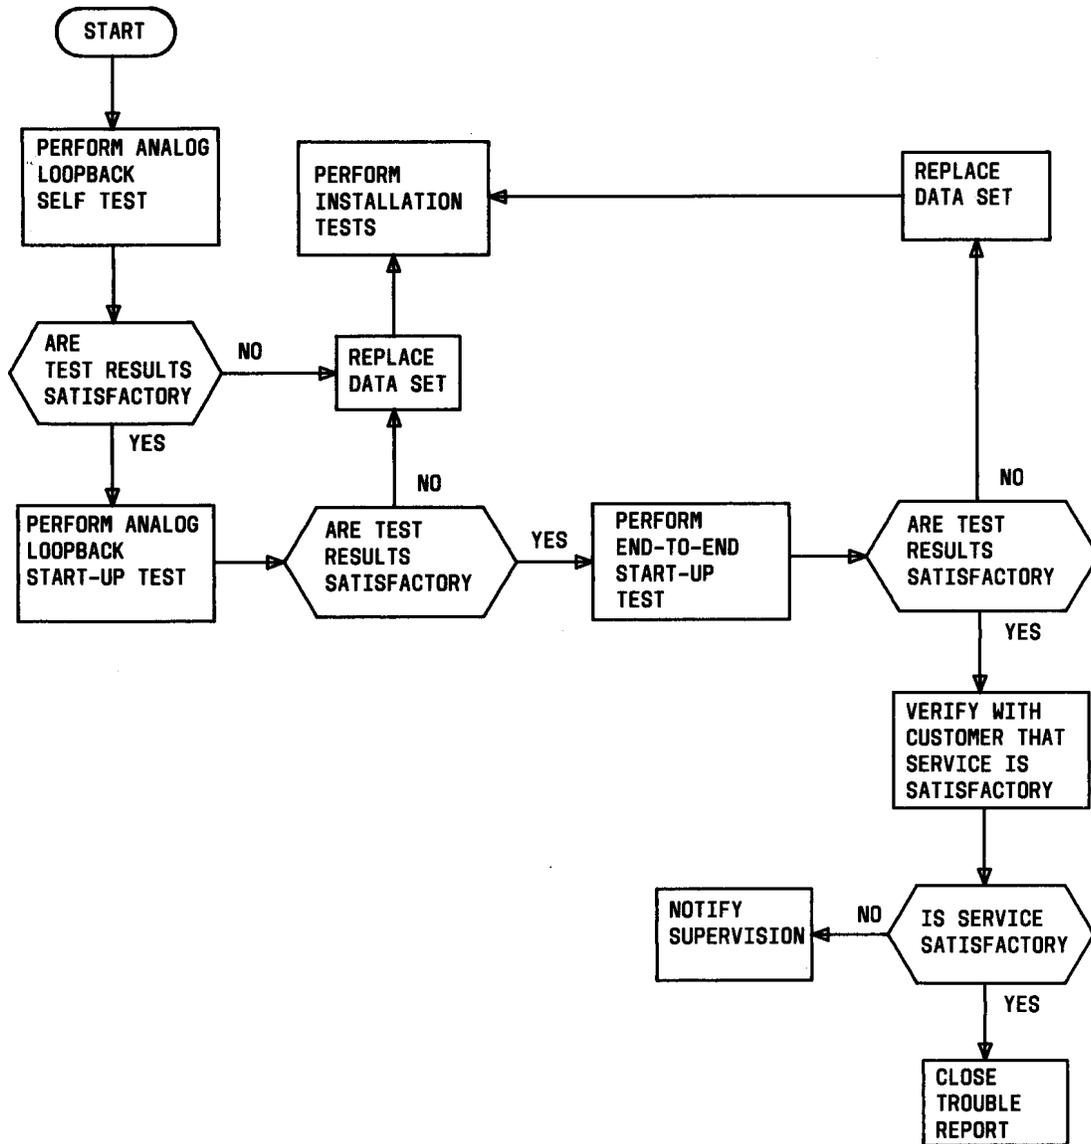
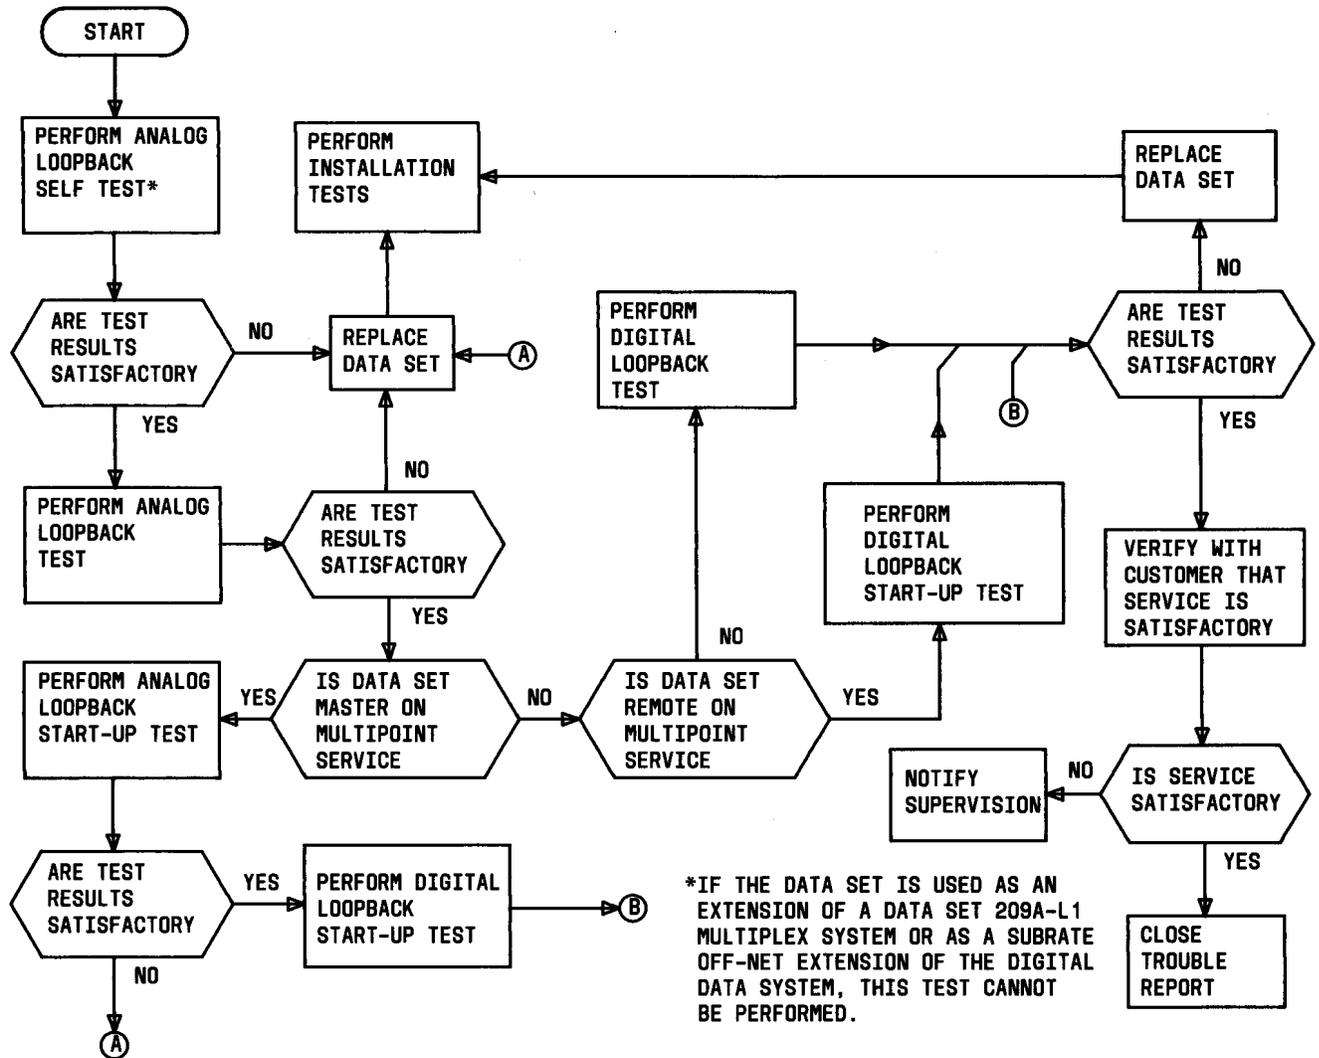

Fig. 6—Maintenance Test Sequence (2-Wire Private Line)
Fig. 7—Maintenance Test Sequence (4-Wire Private Line)
3.04 Refer to Fig. 6 (2-wire private line) and Fig. 7 (4-wire private line) for the sequence in which tests are to be performed by the telco employee at the data station. If the data set is replaced, the defective data set should be tagged